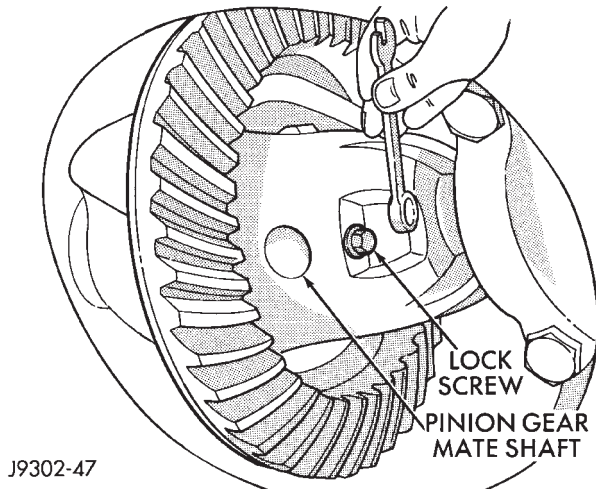

Fig. 23 Mate Shaft Lock Screw
(6) Rotate differential case so that pinion mate gear shaft lock screw is accessible. Remove lock screw and pinion mate gear shaft from differential case (Fig. 23).